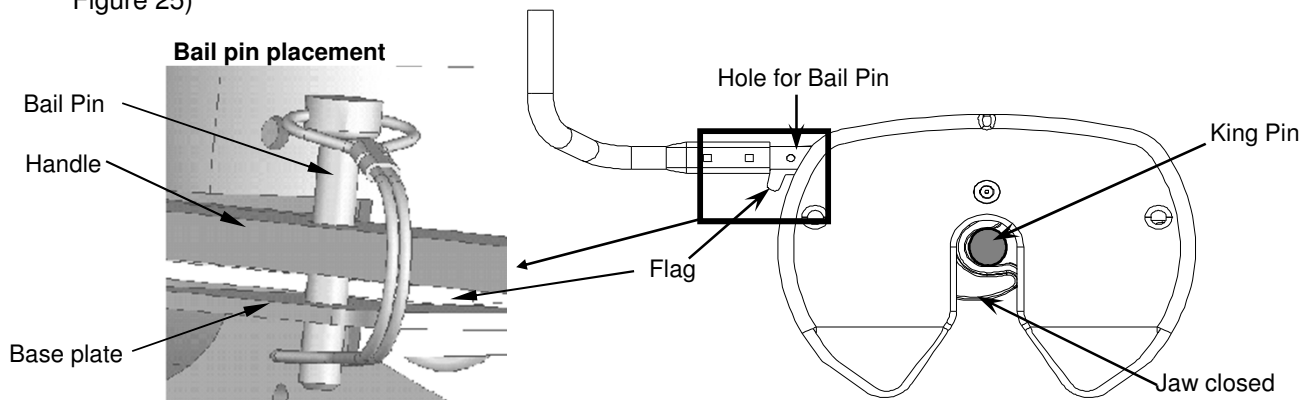

Figure 25
7. Place bail pin through bail pin holes in the handle and base plate to make sure the hitch jaw is locked closed. **IF FLAG BLOCKS HOLE FOR BAIL PIN, TRAILER HAS NOT BEEN PROPERLY CONNECTED TO HITCH. DO NOT TOW!** Repeat above steps until trailer is properly hitched. (See Figure 25)